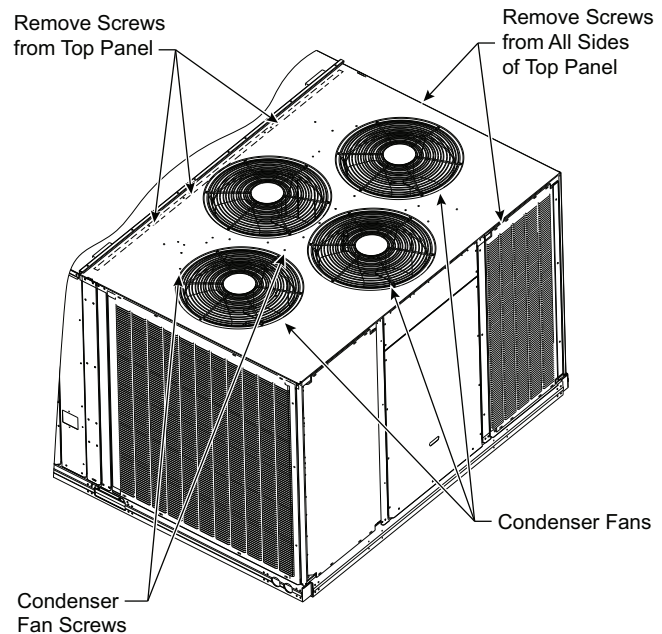

Fig. 16 — Location of Top Panel Screws and Coil Corner Post
2. Remove all screws from the top panel except the screws securing the condenser fan to the top panel. See Fig. 16.